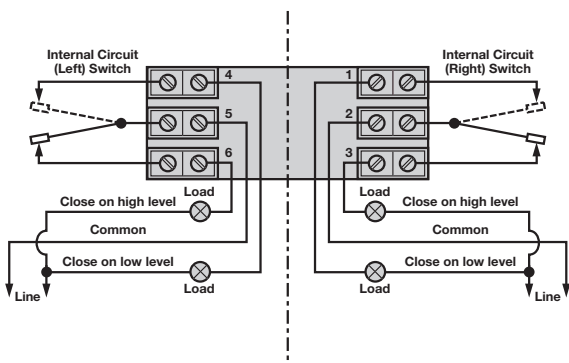

Figure 5
5. The switch terminals are located next to the conduit outlet to facilitate wiring. Bring supply wires through conduit outlet. Route extra wire around enclosing tube under the baffle plate, and connect them to the proper terminals. Refer to the wiring diagram, Figure 5, or your switch bulletin for this information.